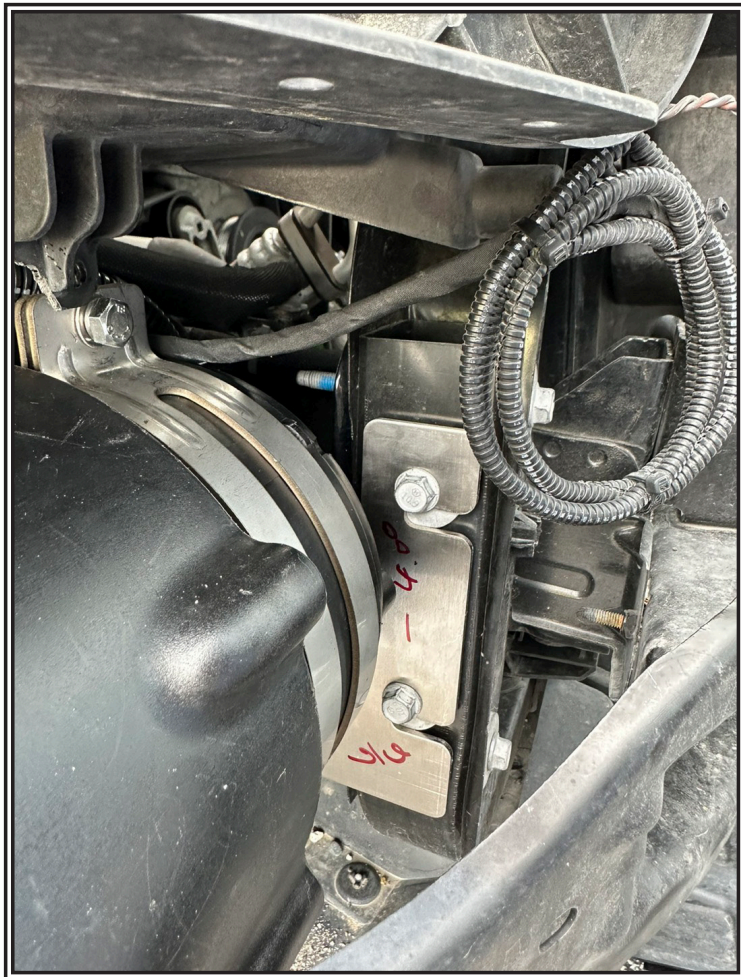

Figure 6
2. Mount speaker onto bracket as shown in Figure 6.